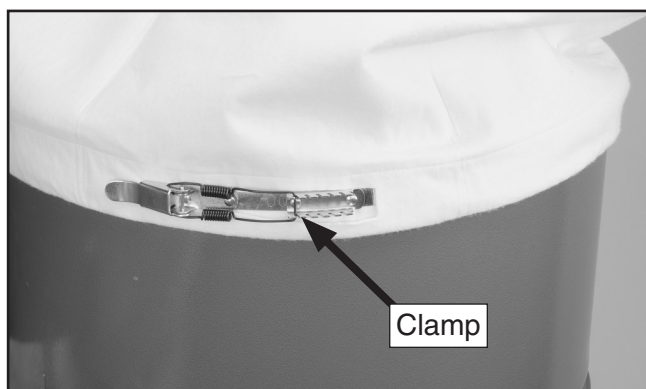

Figure 21. Upper collection bag secured.
- b. Tighten the upper bags to the collector using the strap and clamp kits shown in Figure 21.